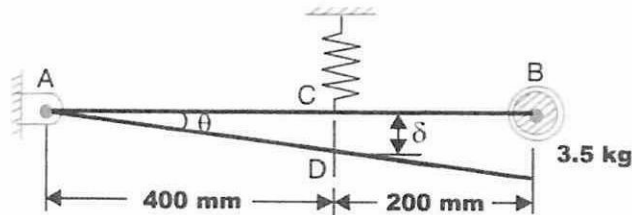

Figure Q6.1
- Q6** (a) Define the Simple Harmonic Motion (SHM) and list two (2) criteria of SHM. (4 marks)
- (c) A uniform thin rod, AB with mass of 1.3 kg is hinged at point A and able to rotate at this point as shown in **Figure Q6.1**. A concentrated mass of 3.5kg is then added at point B. The thin rod is then balanced horizontally by attaching a spring with a stiff thickness of 3.0 kN/m.